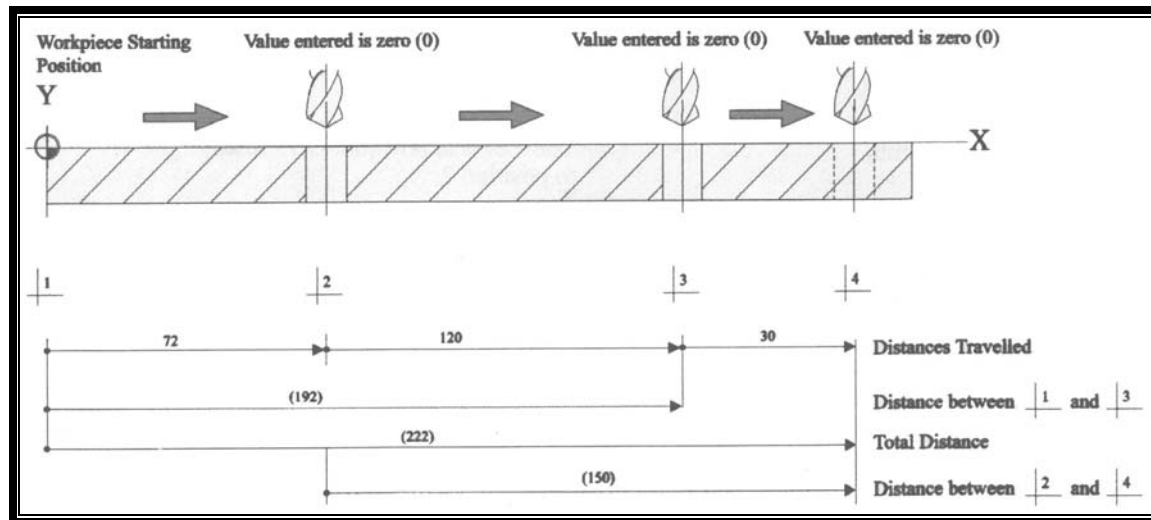

Figure 8 Example of datum points on the X-axis
Figure 8 below provides an illustrated example of finding the datum points. For example, Datum point 1 represents a travel of 72.00mm. The display can then be cleared (0.00). A second point can now be obtained by traveling 120.00mm. If the user wishes to return to zero, the absolute position can be
Table 12 on page 13 provides a step-by-step example of how to set datum points whilst moving along the axis. Figure 8 above is referred to for this example.
1. Position the tool at the work piece starting position (position 1 in Figure 8)
3. Move along the machine slide or tool to datum position 2 in Figure 8.	The display shows the distance travelled 72 ¹
2. Press 	The LED below  switches off. The display shows the total distance traveled between datum 4 and datum 2 i.e. 50mm as shown in Figure 8 on page 12.